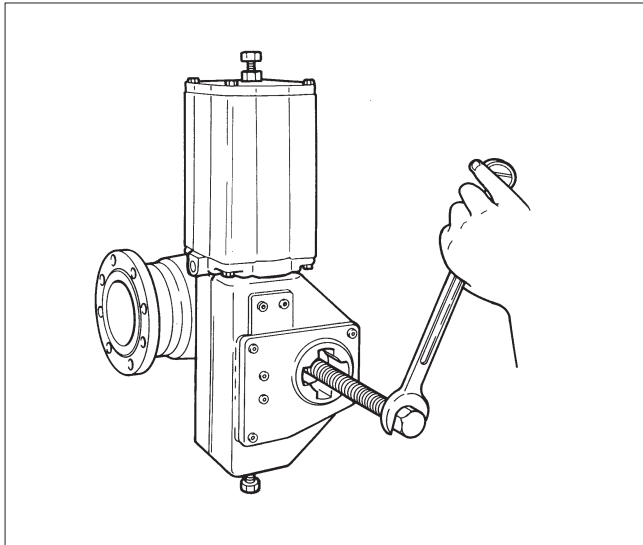

Fig. 30 Extractor
- Detach the actuator using a suitable extractor, see Fig. 30. The tool can be ordered from the manufacturer.